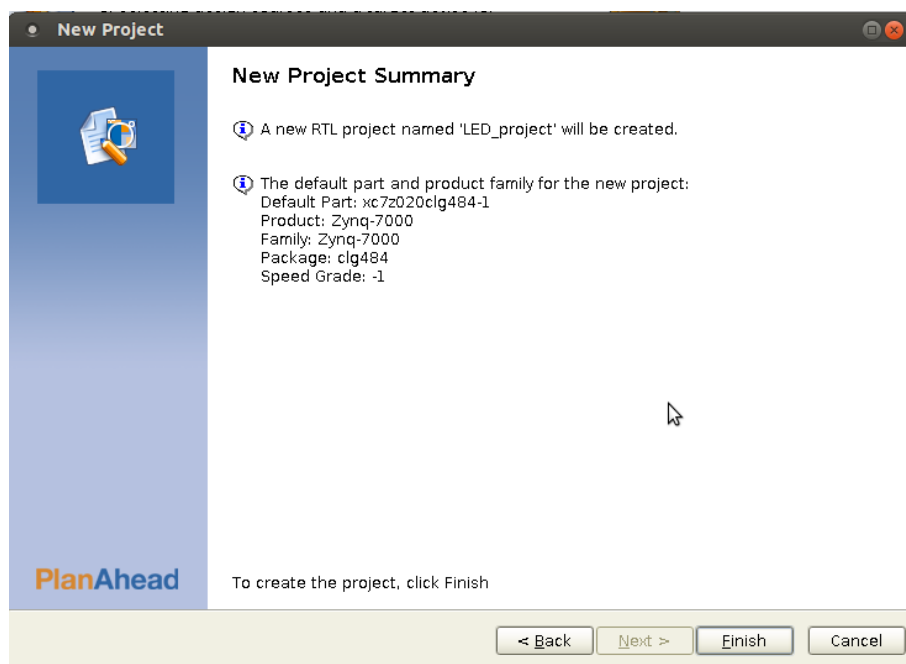

Figure 4.1.: Summary of Project.
10. Next tab shows the summary which should look like in Figure 4.1. Click *Finish* to finish create the project.